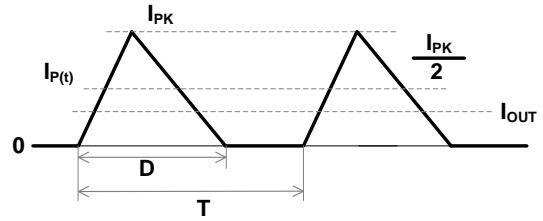

Figure 6: Inductor Current Waveform
The internal MOSFET turns off when $I_{P(t)}$ rises to I_{PK} (see Figure 6). The output current can be calculated with Equation (6):